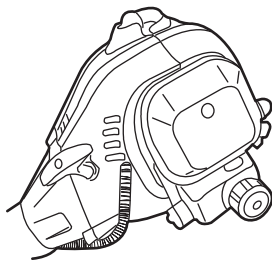

Fig. 11b
- 6). Fill correctly mixed fuel/oil into the tank using a fuel funnel (NO SUPPLIED) fitted with a filter to avoid debris entering the tank. Do not overfill. Leave a minimum 5 mm of space between the top of the fuel and the inside edge of the tank to allow for expansion. (See Fig. 11b, 11c)